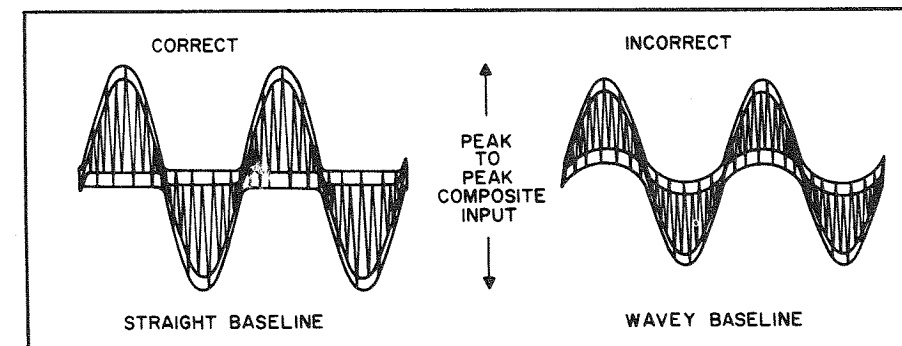

Figure 4. Composite Input To Multiplex Decoder.
- NOTE:** If equal readings cannot be obtained in Steps (8) and (10), readjust Z402 slightly (on MPX board) and repeat Steps (7) through (10).
- (2) Connect DC VTVM to Test Point 403 (on MPX board). Connect the vertical input of the scope to pin 4B (on MPX board).
- (3) Set MPX generator for 19 kHz pilot carrier output only. Adjust pilot level for approximately 120mV peak-to-peak input at pin 4B.
- (4) Adjust cores of Z401 and Z402 (on MPX board) for maximum reading on DC VTVM.
- (5) Connect output of audio generator, set for 1 kHz, to the external modulation input of MPX generator and to external sync input of an oscilloscope. Adjust audio generator level for 1.2 volts peak-to-peak composite MPX input to MPX board (10% pilot, 90% audio). See Figure 4. Modulate right channel only. Proceed with Steps (5) through (10) of PREFERRED ALIGNMENT PROCEDURE.
- (6) Reconnect the lead going to pin 4B (on MPX board).